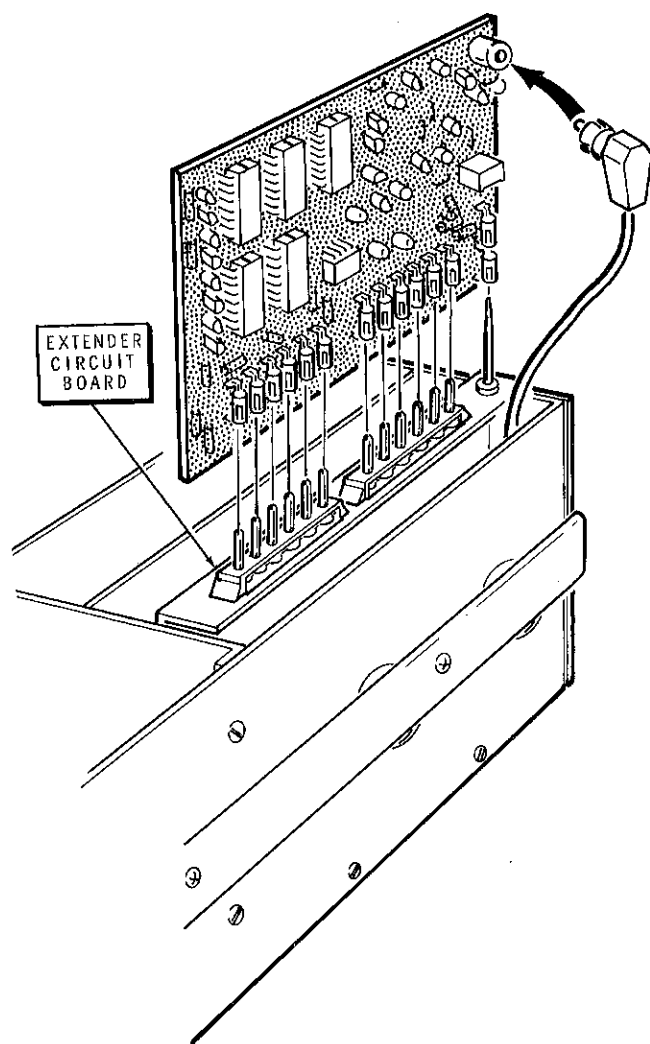

Figure 9
- ( ) Remove the desired circuit board from the Counter, plug in the extender circuit board, and then plug the removed circuit board into the extender circuit board. See Figure 9.